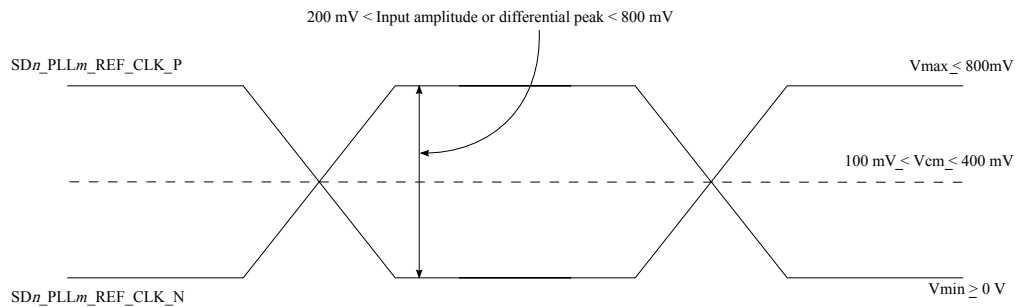

Figure 47. Differential reference clock input DC requirements (external DC-coupled)
- For an external DC-coupled connection, as described in SerDes reference clock receiver characteristics, the maximum average current requirements sets the requirement for average voltage (common mode voltage) as between 100 mV and 400 mV. Figure 47 shows the SerDes reference clock input requirement for DC-coupled connection scheme.